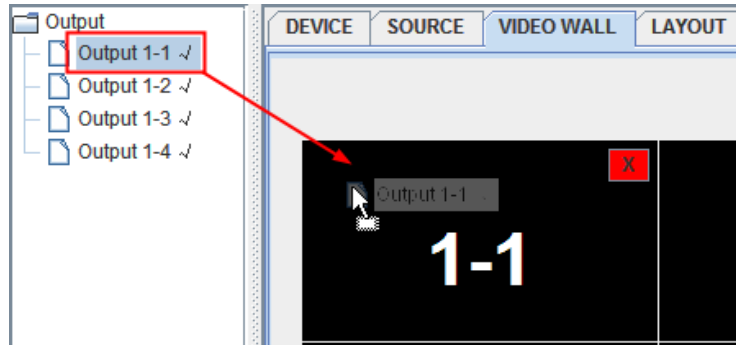

Figure 2.3-11 Output Interface for a Monitor Panel
- **Output:** It provides the available output interfaces for the monitors. Click and drag an output interface from the output list in system pane to a target monitor in working area, thus to establish the one to one relationship, as shown in **Figure 2.3-11**: